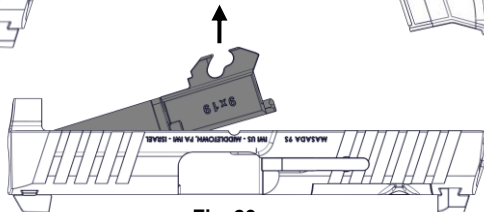

Fig. 20
7. Remove the barrel from the slide by pulling up on the barrel lug (Fig. 20).